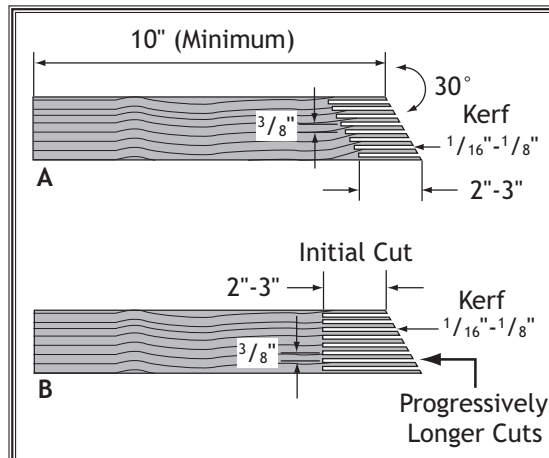

Figure 70. Patterns for featherboards (top view shown).
Easily made from scrap stock, featherboards (Figure 70) provide an added degree of protection against kickback, especially when used together with push sticks. They also maintain pressure on the workpiece to keep it against the fence or table while cutting, which makes the operation easier and safer because the cut can be completed without the operator's hands getting near the blade. The angled ends and flexibility of the fingers allow the workpiece to move in only one direction, which helps slow/stop the workpiece if a kickback occurs.
3. Make a series of end cuts with the grain, approximately $\frac{3}{8}$ "- $\frac{1}{4}$ " apart and 2"-3" long, as shown in **Figure 70 (A)**.
Alternatively, start cuts at 2"-3" deep, then make them progressively deeper, as shown in **Figure 70 (B)**.